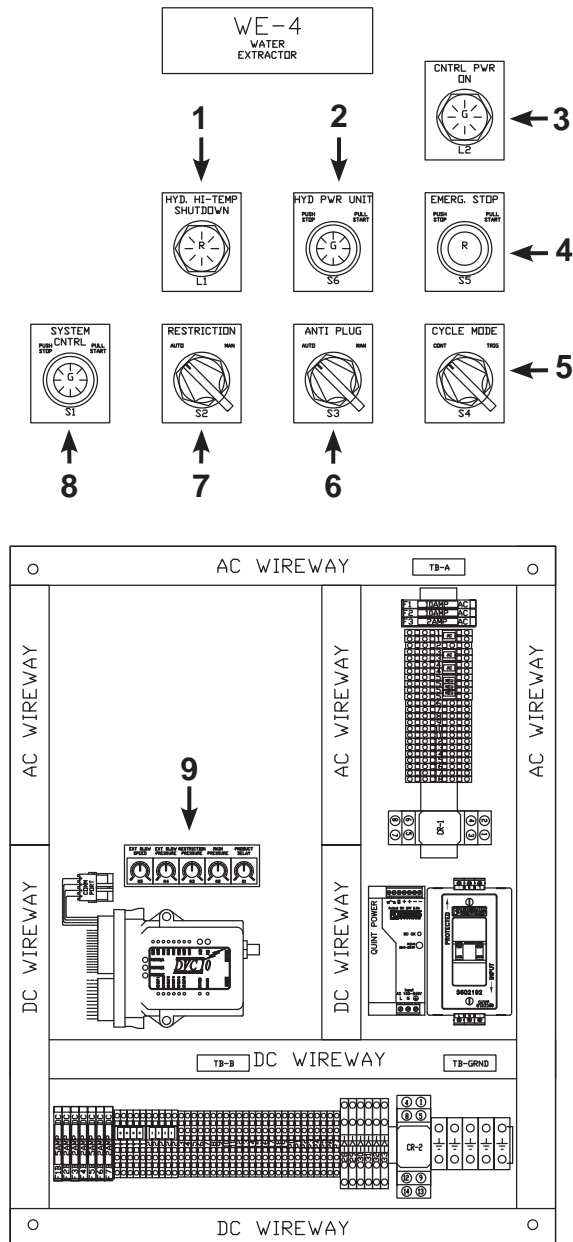

Figure 21 - Control Box
1. Push the EMERG STOP switch (see Figure 21 Page 8). This stops the plunger and turns off all power to the water extractor.